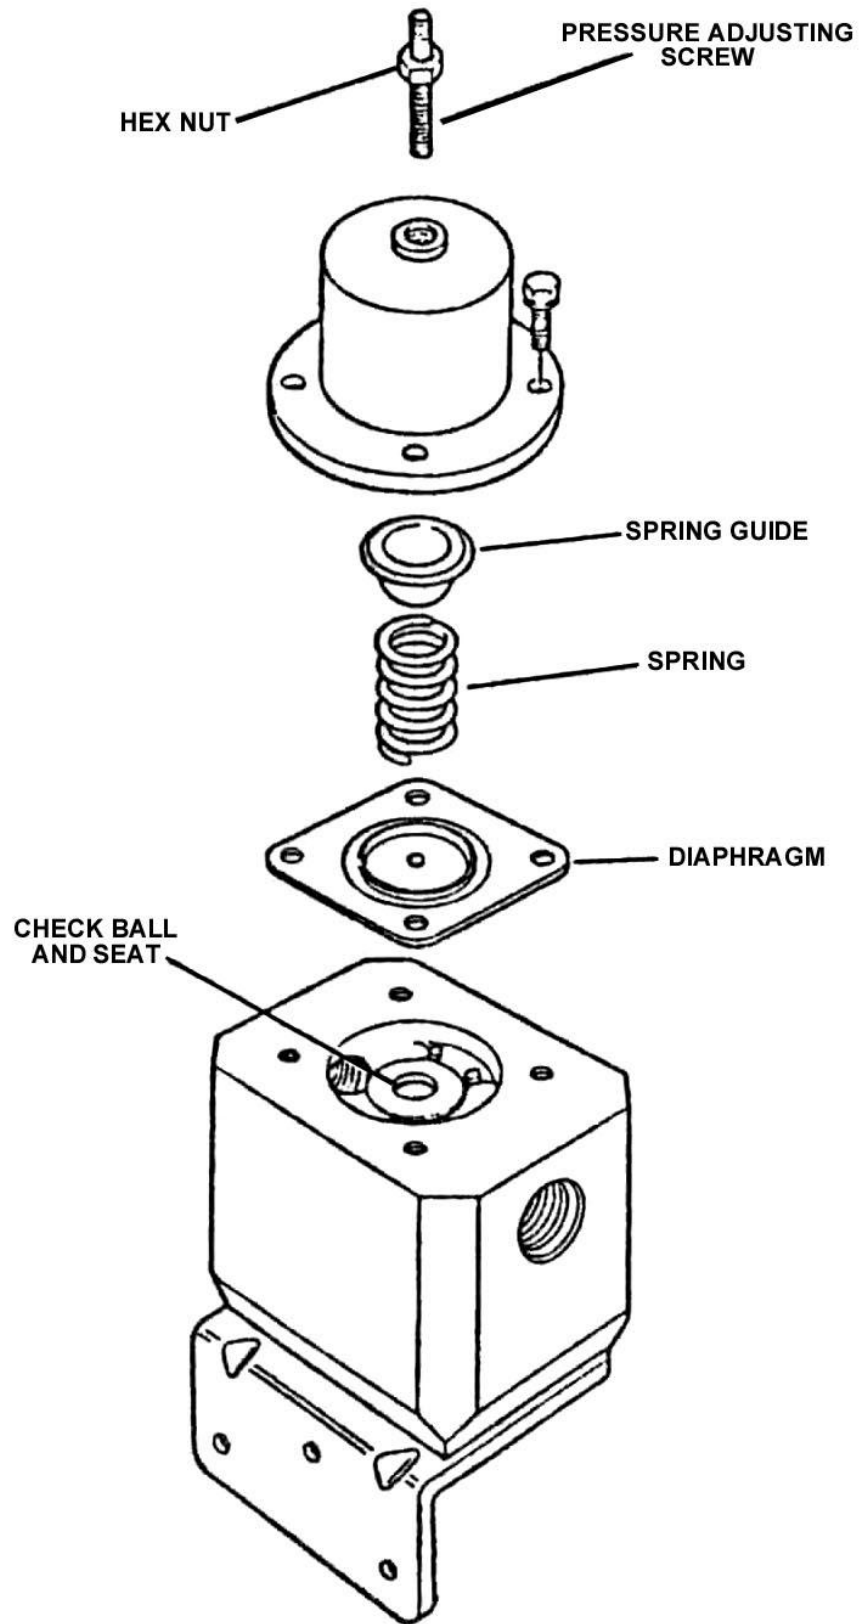

Figure 1
1. Loosen the hex nut on top of the regulator and back the adjusting screw out all the way to relieve tension on the diaphragm spring. See Figure 1.